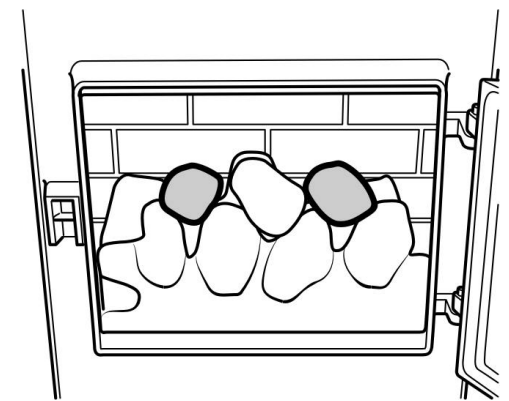

Figure 7.
9. Locate the two ceramic coals identified with a number '2' as in figure 7.